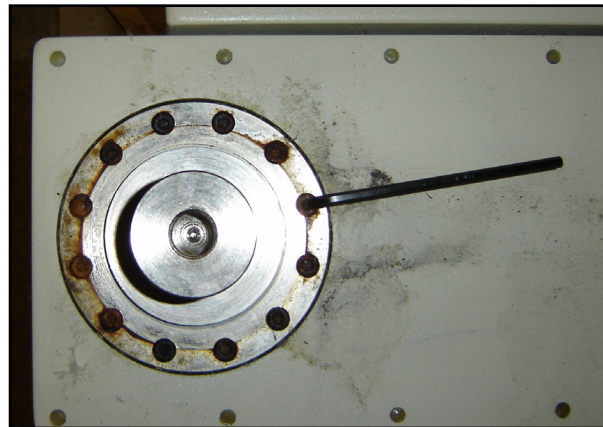

Fig. 3
7. Next, using the $\frac{3}{16}$ " Allen wrench, remove the (12) $\frac{1}{4}$ -20 screws holding the pivot post in place (Fig. 3).